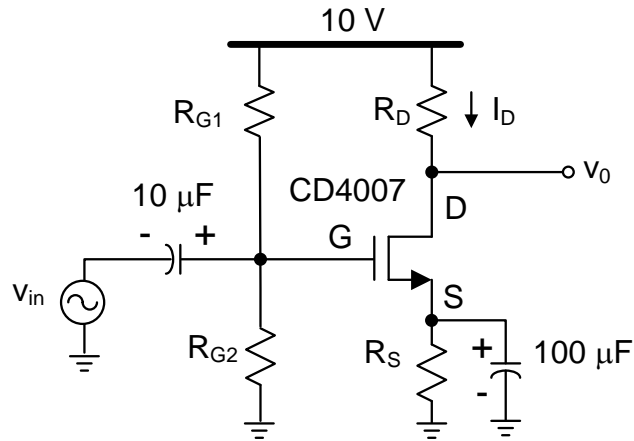

Fig. 3. Common-source configuration
5. Find the value of the resistors for the circuit shown in Fig. 3 (use the CD4007) so that the magnitude of the small signal voltage gain is 20 dB and $I_D = 0.5 \text{ mA}$. Make sure the transistor operates in the saturation region. Select the values of R_{G1} and R_{G2} so that $R_{G1} || R_{G2} > 100 \text{ k}\Omega$. Check the operating point of your design and verify that the voltage gain is approximately given by $-g_m R_D$. Compute the values for the input impedance and output impedance.
6. Construct the circuit in Fig. 3 in PSpice and compare the simulated results and calculations. Explain any differences.
7. Plot the frequency response of the circuit shown in Fig. 3, and find the low and high frequency poles.
5. Construct the circuit shown in Fig. 3. Use the resistor values computed in the pre-lab. Verify the component values using PSpice.